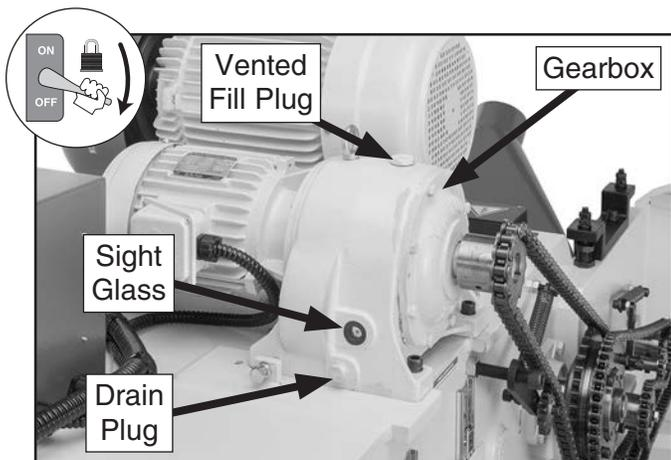

Figure 83. Location of chain drive gearbox and components.
The feed system gearbox (see **Figure 83**) requires draining and refilling yearly to prevent premature failure.
2. Place oil drain pan beneath gearbox, and remove drain plug, located on bottom side of gearbox (see **Figure 83**).
4. Remove vented fill plug (see **Figure 83**) and insert funnel into fill hole. Add approximately 74 oz. (2.2 liters) of ISO 320 or equivalent oil until oil level is halfway in sight glass. Wait 10 seconds to allow oil to settle in sight glass before taking a reading.